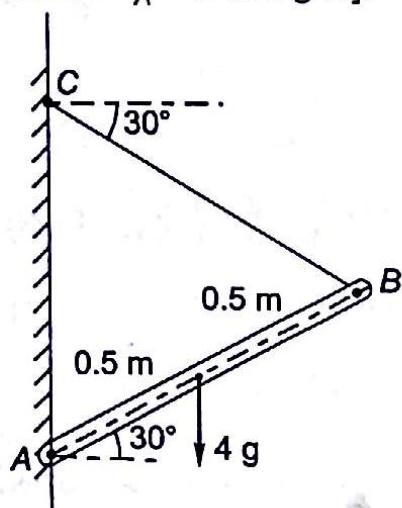

Fig. 3.47
- 3.1 A bar AB of mass 4 kg is hinged at A , and tied to a string at B . Draw the free body diagram of the bar and for equilibrium find reaction R_A and pull in string at B (Fig. 3.47).